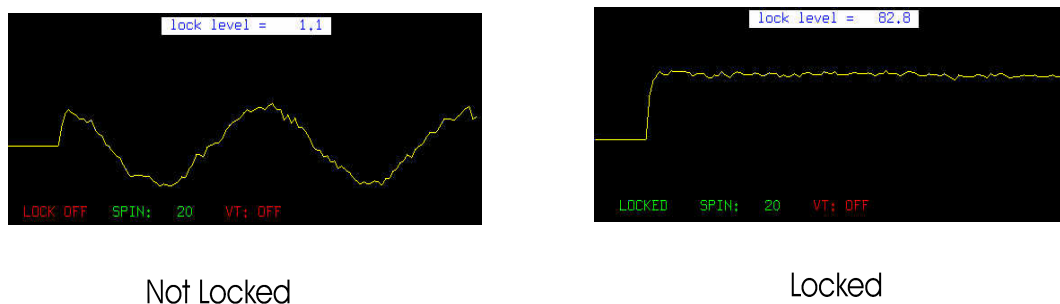

Figure 1
5. Often when you insert your sample into the NMR, you will find your sample may not be locked (Figure 1), so you will have to lock it yourself. When *locking* your sample, first turn the lock off by pressing the off button. There are then 4 parameters you can change: *Z0*, *lock power*, *lock gain*, and *phase*. *Z0* is typically the most important parameter and
controls the frequency at which you are locking. You can adjust the $Z0$ value by either moving the bar associated with it, or clicking on the numbered buttons. As you change $Z0$ and get closer to locking, the wave function will get longer and longer until the signal jumps up and forms a straight line (Figure 1).